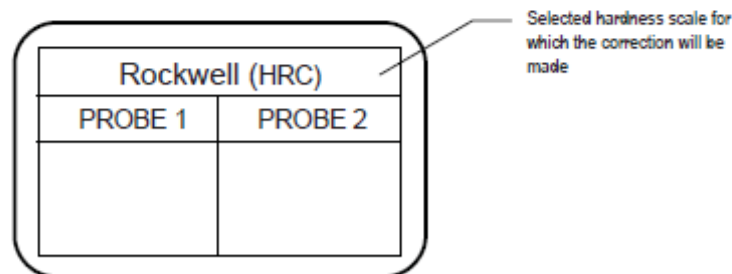

Figure 6
2.1.15 In order to accomplish this operation, it is necessary to access the menu of the hardness meter operation modes by pressing the «» button. By pressing the «» button place the cursor on the menu option named "CORRECTION". Press the «» button. The graphic display will look like the one depicted in Fig. 6.